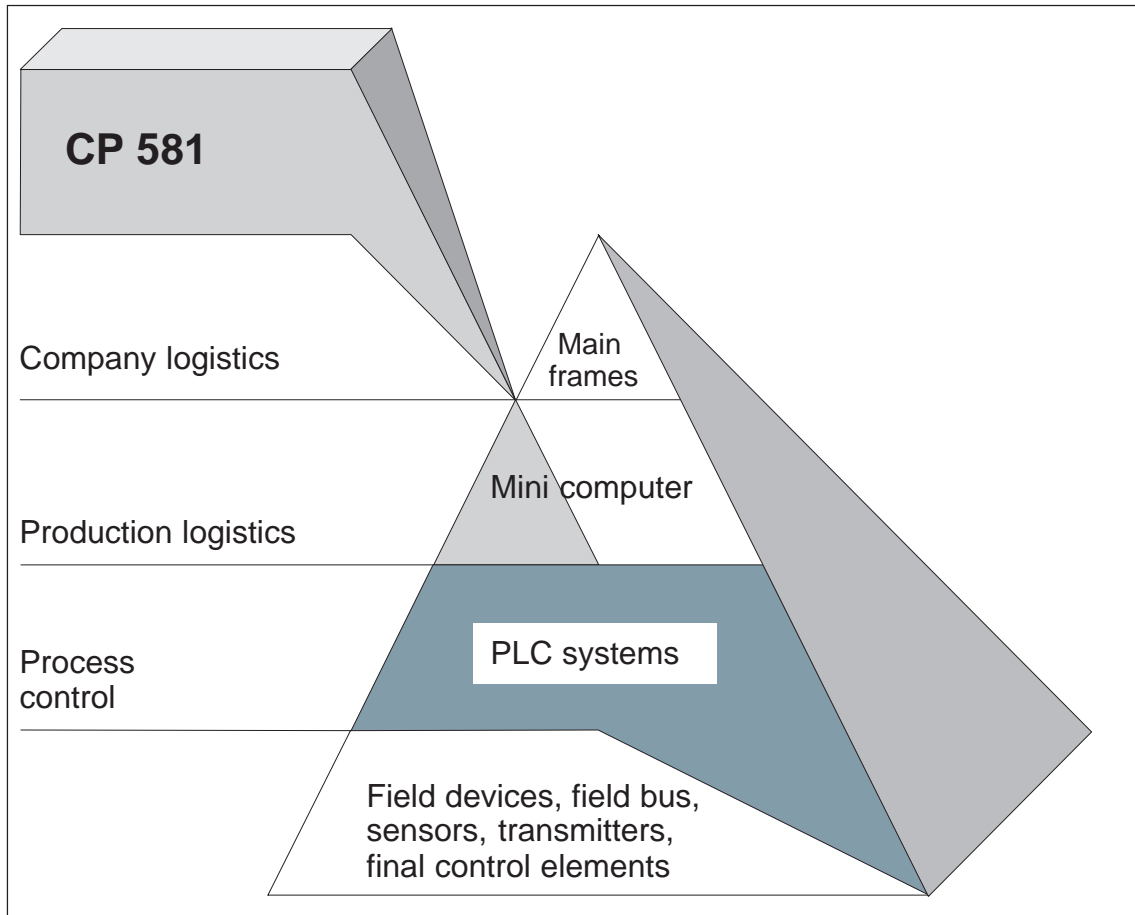

Figure 1-1 The CP 581 Communications Processor in the Automation Pyramid
- To implement the cell level of a manufacturing system according to Figure 1.1
Figure 1-1 shows a possible task of the CP 581 in the automation pyramid.